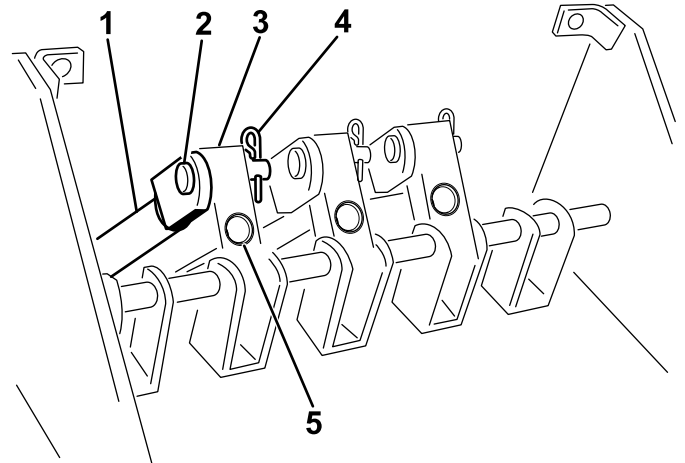
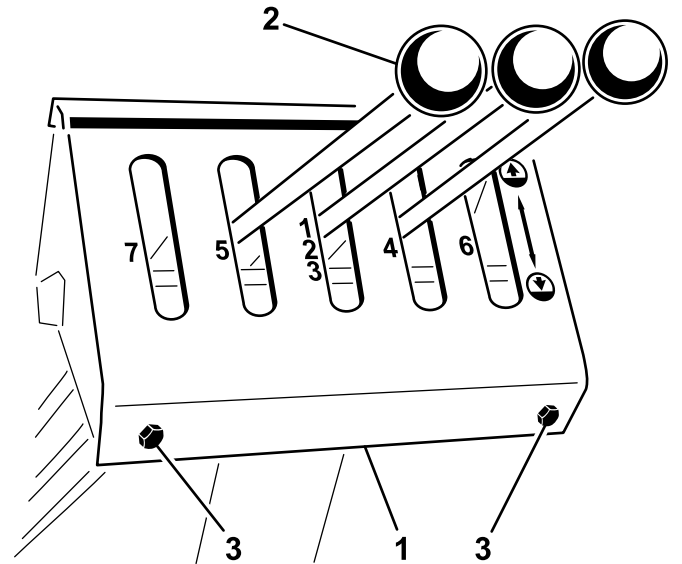

Figure 7
Figure 8
- Secure the upper control linkage tubes to the pivot blocks with the clevis pins and cotter pins (Figure 7).
- Install the control-panel cover to the control tower with the 4 corresponding capscrews (Figure 8).
- Screw the control levers into the pivot blocks (Figure 7 and Figure 8).
- Remove the control-panel cover from the control tower by removing the 4 capscrews (Figure 8).